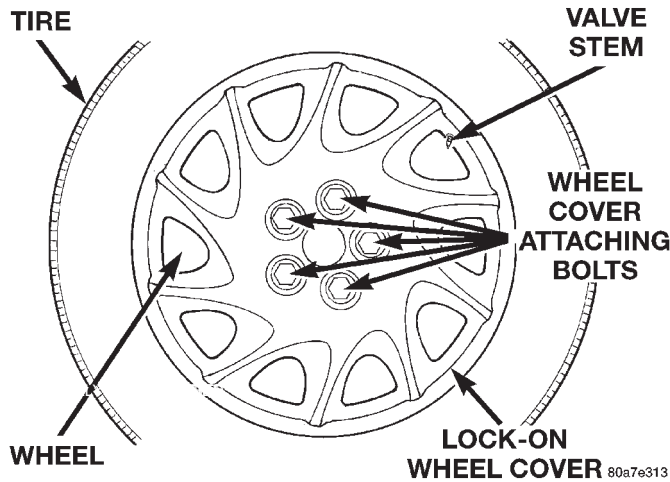
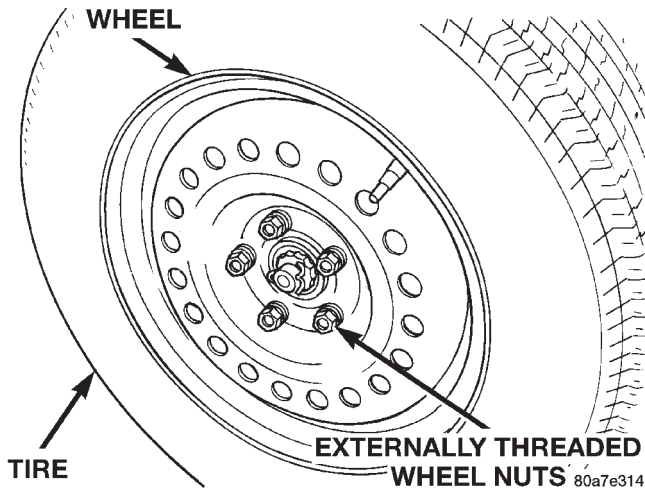

Fig. 13 Wheel Cover Locking Nuts
Fig. 14 Wheel Nuts
NOTE: When unthreading the wheel cover retaining nuts (Fig. 13) from the wheel nuts it is recommended that a hand wrench be used and not an impact wrench. Use of an impact wrench could result in damage to the lock-on wheel cover retaining nuts.
(1) Un-thread the 5 nuts (Fig. 13) attaching the wheel cover to the wheel nuts.
(2) Grasp the wheel cover and pull straight outward. This will remove the wheel cover from the wheel.
(3) Remove the wheel nuts (Fig. 14) from the studs.
(4) Remove the wheel and tire from the hub.
(3) Align the valve notch in the wheel cover with the valve stem on the wheel (Fig. 13). Align the wheel cover retaining nuts with the externally threaded wheel nuts.
(4) By hand, start to thread all 5 of the wheel cover retaining nuts onto the externally threaded wheel nuts.